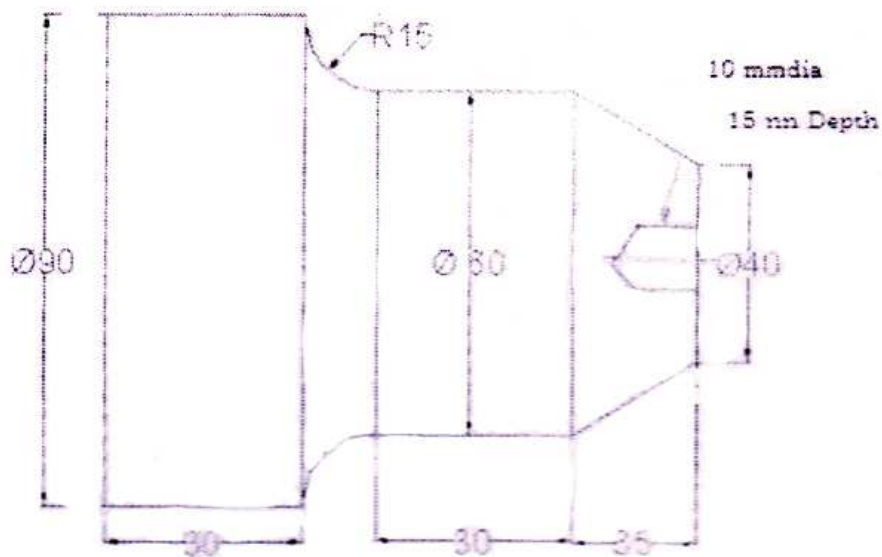

Figure 3 Q. No. 7 (b)
- b) Write CNC part program to take a finishing cut to produce turning job as shown in figure 3. Assume suitable data. [10]